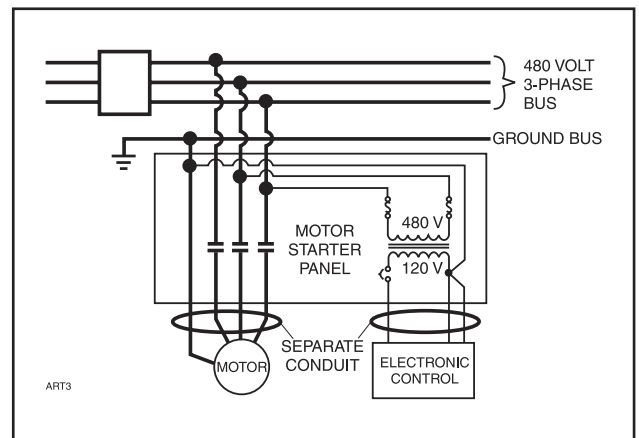

Figure 30
**Do not mix wires of different voltages in conduit.** An example of this would be the installation of a screw compressor package. The motor voltage is 480 volts and the panel control power is 120 volts. **The 480 volt circuit must be run from the motor starter to the motor in its own conduit. The 120 volt circuit must be run from the motor starter control transformer to the control panel in its own separate conduit.** If the two circuits are run in the same conduit, transients on the 480 volt circuit will be inducted into the 120 volt circuit causing functional problems with the electronic control. Dividers must be used in wire way systems (conduit trays) to separate unlike voltages. The same rule applies for 120 volt wires and 220 volt wires. **Also, never run low voltage wires in the same conduit with 120 volt wires. (Figure 30)**